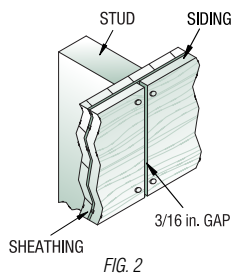

FIG. 2
- All lap products require that the butt joints be located on the studs and nailed at the joints. *See Fig 2.*
- Leave 3/16 in. gap at all butt joints, around all doors and window frames, and at joints in the soffits for all lap and square edge siding products. Seal all gaps. See Fig 2.
- Vertical butt joints must be located only on studs. Each piece of siding must be nailed top and bottom to studs. *See Fig. 2.*